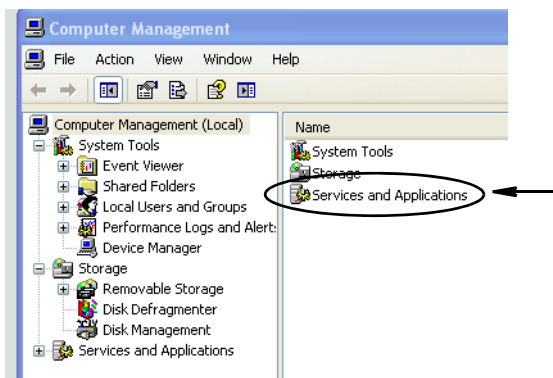

FIG. 54
- b. Double click on Services and Applications (FIG. 54).